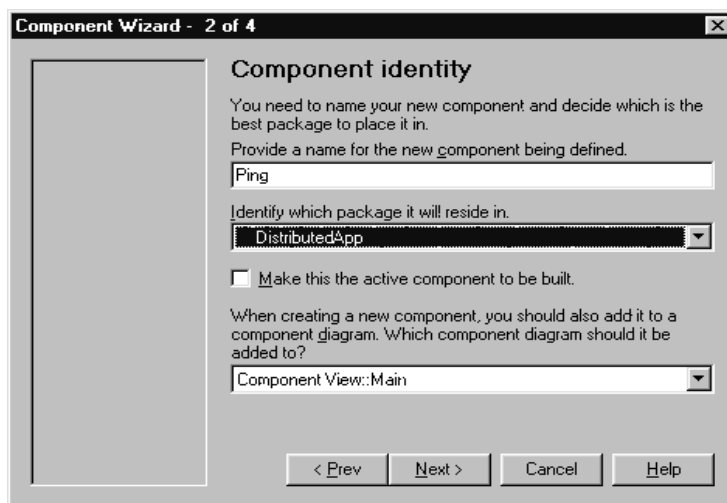

Figure 40 Setting the component identity - Iteration 2
6. Type “Ping” in the component name field as shown in Figure 40. Ensure that the package is DistributedApp and click **Next**.